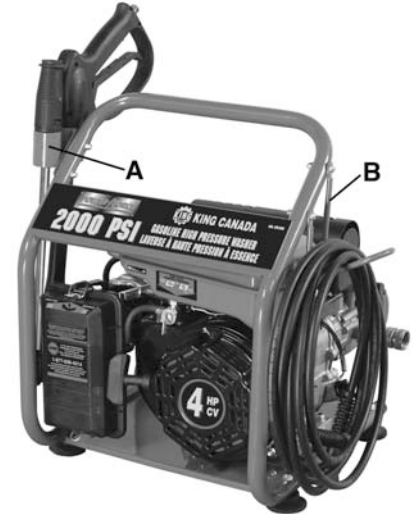

Figure 1
Assemble the hose support (A) Fig.1 to the right side of the frame using 2 pan head screws, 4 washers and 2 nylon hex. nuts. Then assemble the wand support (B) to the left side of the frame again using 2 pan head screws, 4 washers and 2 nylon hex. nuts.